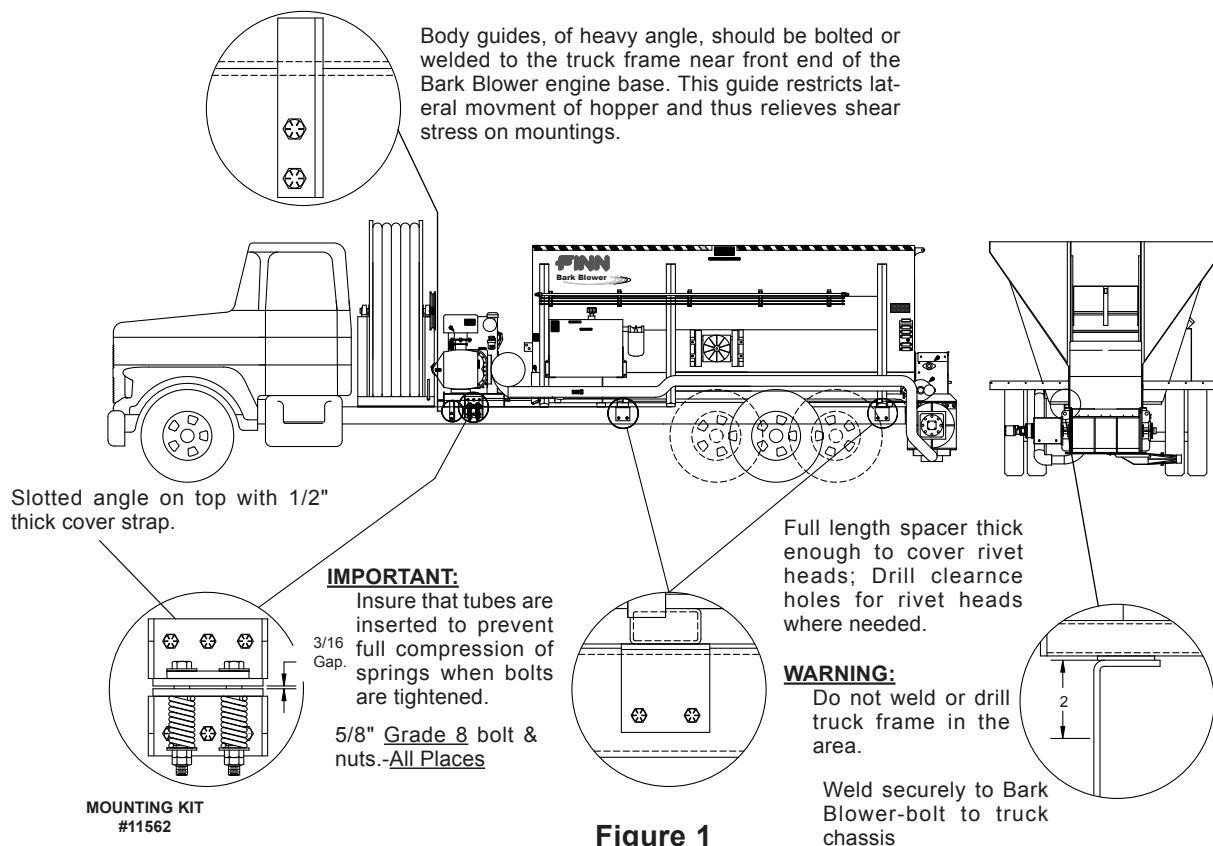

Figure 1
2. Follow mounting instructions given in Figure 1 (Page 8). If mounting conditions require deviation from these instructions, consult the factory.